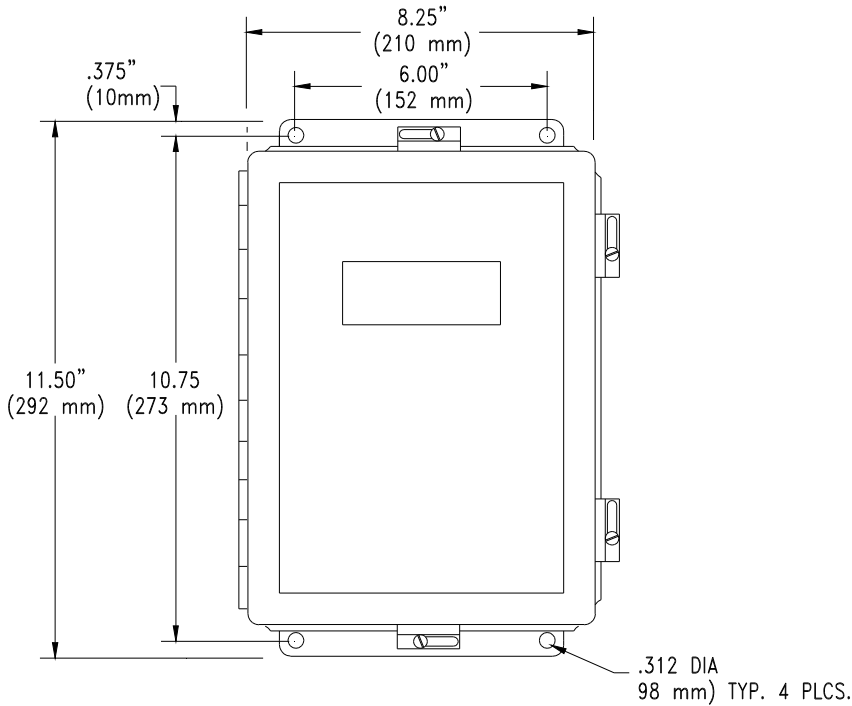

Figure 22. NEMA Enclosure Mounting Dimensions
- **NEMA:** The NEMA enclosure is mounted to a suitable support using four 5/16" dia screws, as shown in *Figure 22*.